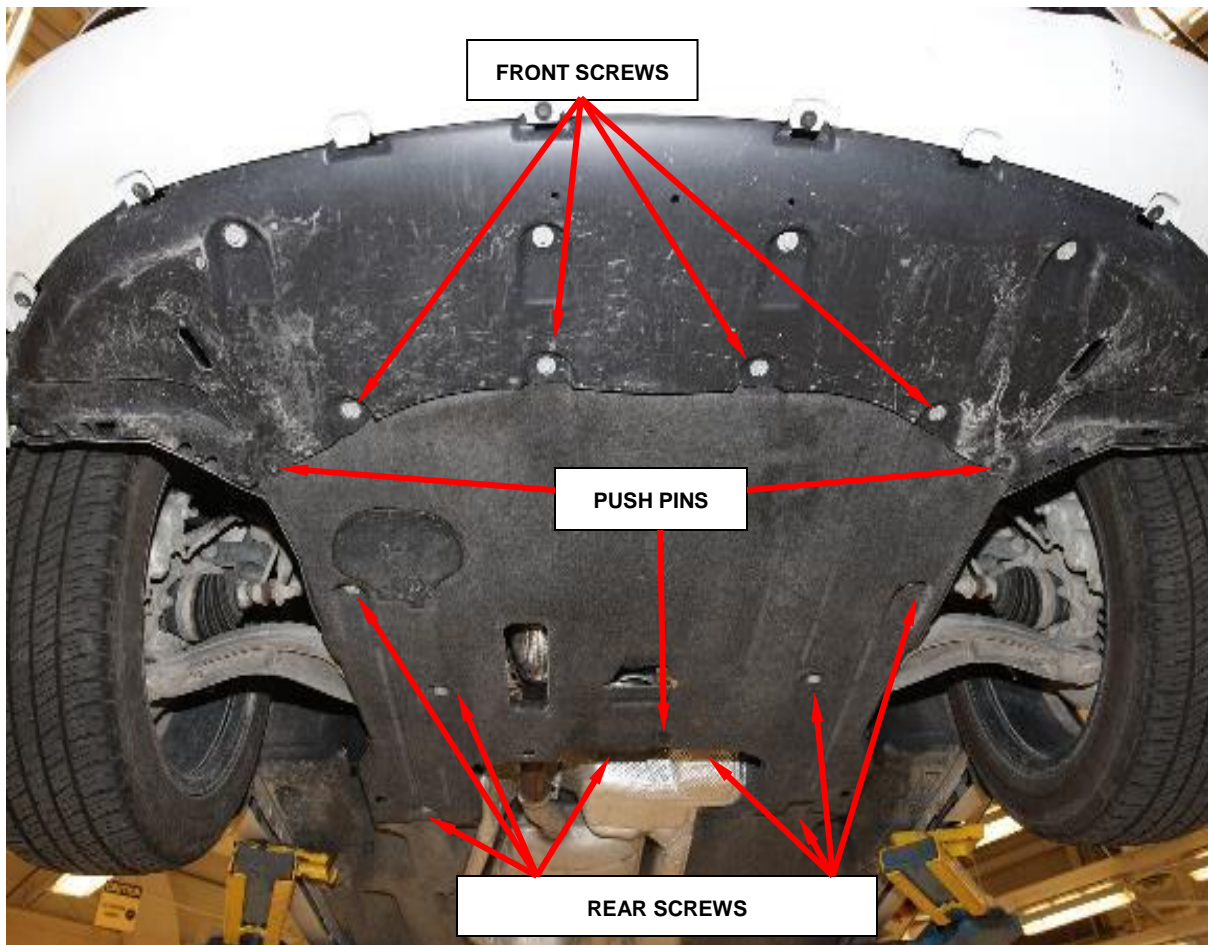

Figure 3 – Front Belly Pan
6. Remove the four front screws (Figure 3).
7. Remove the three push pins (Figure 3).
8. Remove the eight rear screws (Figure 3).